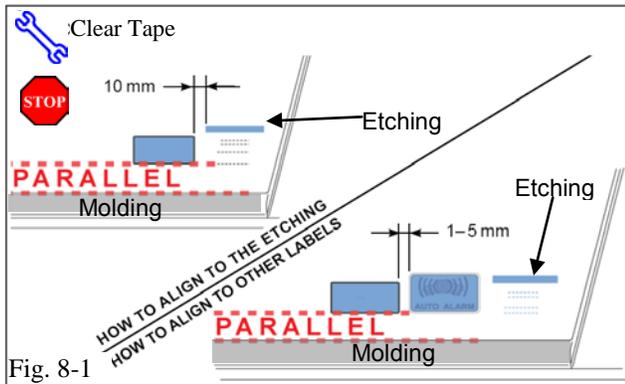

Fig. 8-1
(a) Use Household Glass Cleaner to clean the inside of the Front Door Window. (Fig. 8-1)
(c) Attach the V5 Window Label. (Fig. 8-1)
**NOTE:** Make sure to Align according to Etching or Other Label. (Fig. 8-1)